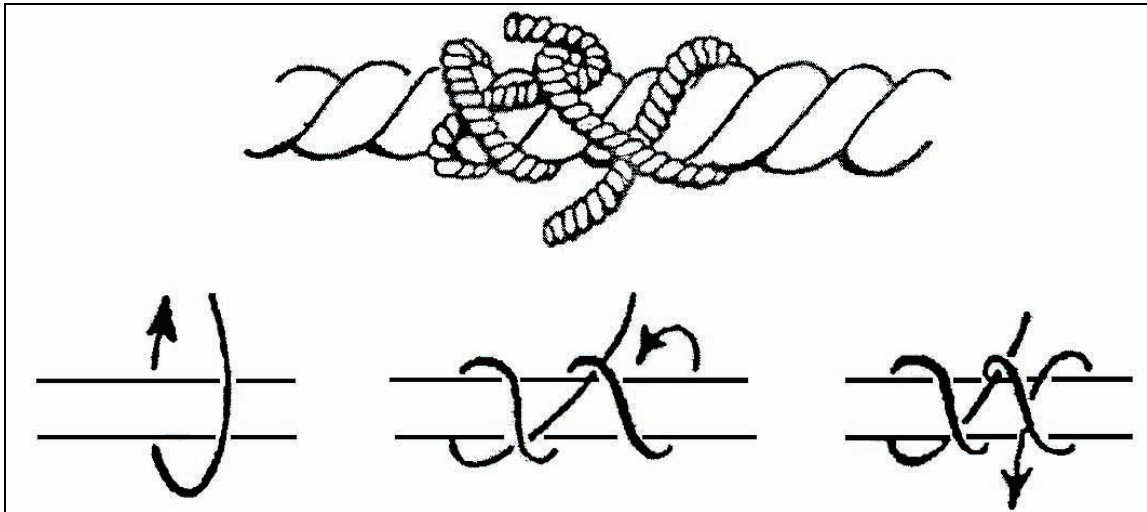

Figure 3-78. Rolling Hitch
6. Tie a rolling hitch (see Figure 3-78).